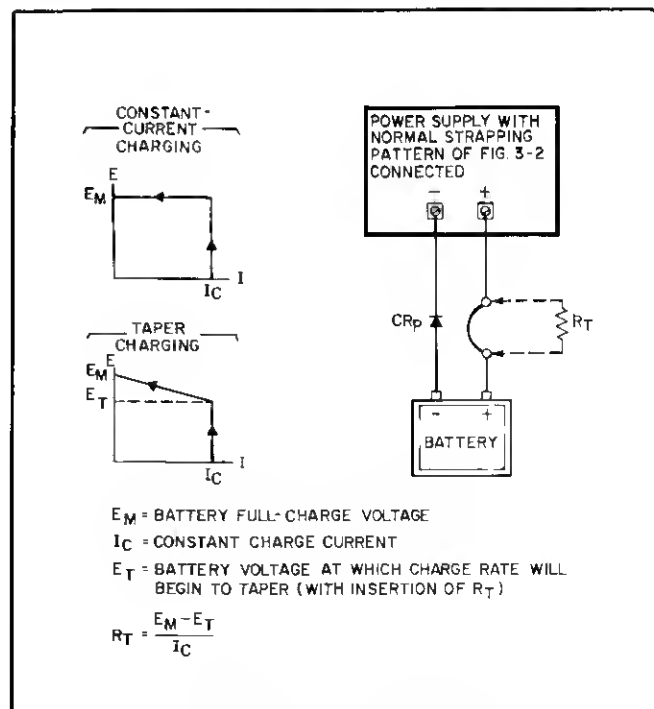

Figure 3-16. Battery Charging
*Any time these supplies are used to charge a battery, be sure to install a protective diode  $CR_P$  in series with the battery as shown in Figure 3-16 to prevent the battery from discharging into the supply if the supply is turned off. Extensive damage to the supply could result if this diode were omitted.*
- Connect a short circuit across the output terminals and rotate the VOLTAGE control fully clockwise (CW).
- Adjust the VOLTAGE control for an output voltage 0.7 volts greater than the desired full charge voltage. (The added 0.7 volts compensates for the drop across  $CR_P$ .) The supply may then be connected to the battery terminals, positive to positive and negative to negative as shown in Figure 3-16 (omit  $R_T$ ).
**3-90 Taper Charge.** When charging lead-acid cells, many manufacturers recommend that the charging current be reduced as the charge nears completion. This can be accomplished by inserting a small resistance ( $R_T$ ) in series with one of the load leads from the supply to the battery. (See Figure 3-16.) This resistor alters the normally rectangular charging plot in such a manner as to provide a taper charge for the last portion of the charge. The proper value for this resistor is the difference between the full charge voltage and the voltage at which the tapering is to start, divided by the initial charging current. Set the initial charging rate and full charge voltage as instructed in paragraph 3-89.